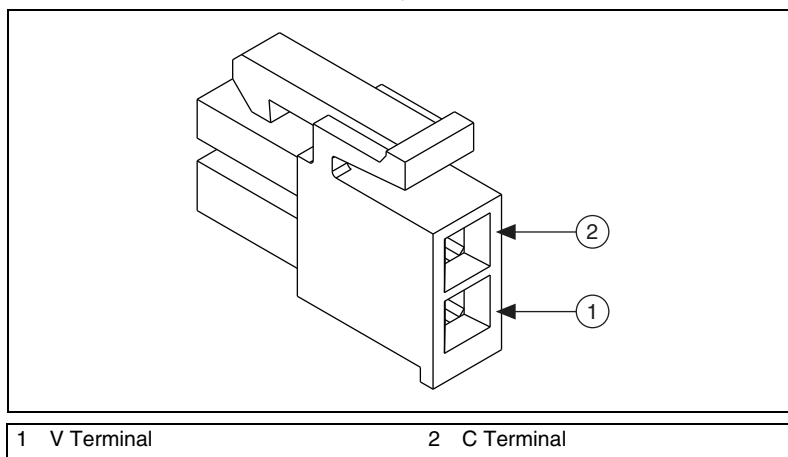

Figure 14. NI sbRIO 960x Power Connector
2. Connect the V lead of the power supply to position 1 of the power connector, Figure 14 shows the positions on the power connector